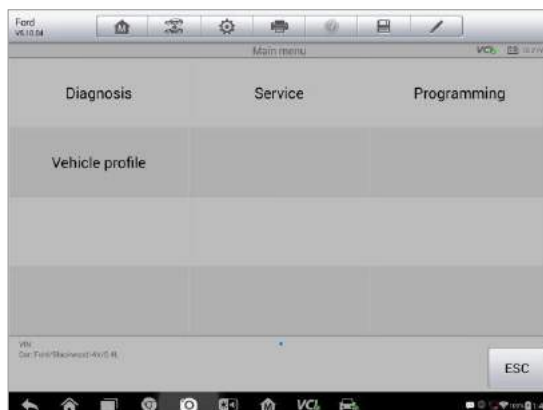

Figure 4-2 *Sample Vehicle Diagnostics Screen*
5. Tap **Done**. The vehicle will be identified in a few seconds, and once the matching is successful, the system will guide you to the Vehicle Diagnostics screen directly. (Figure 4-2)
The Vehicle Diagnostics screen (Figure 4-2) has 2 main options: